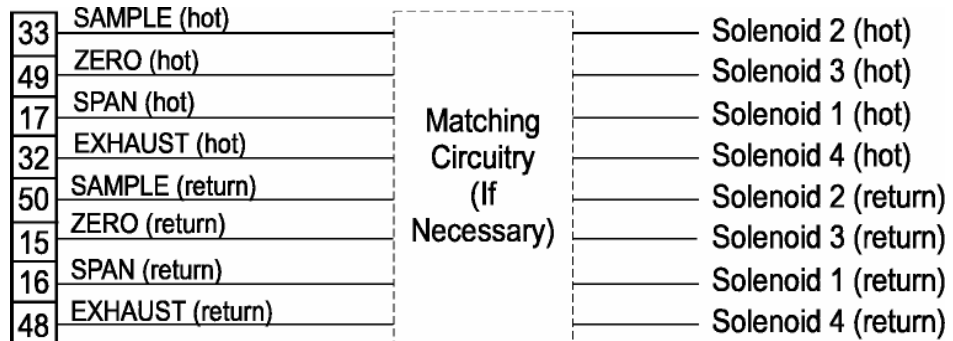

Figure 3-4: Remote Probe Connections
- Span:** Floating input. 5 to 24 V input across the + and – pins places the analyzer into the Span mode. Either side may be grounded at the source of the signal. 0 to 1 volt across the terminals allows Span mode to terminate when done. A synchronous signal must open and close external span valve appropriately. See Figure 3-4 Remote Probe Connector. (The –C option internal valves operate automatically.)
Remote Valve Connections: The 3000RS-TXL is a single-chassis instrument, which has no Remote Valve Unit. Instead, the Remote Valve connections are used as a method for directly controlling external sample/zero/span gas valves. See Figure 3-4.